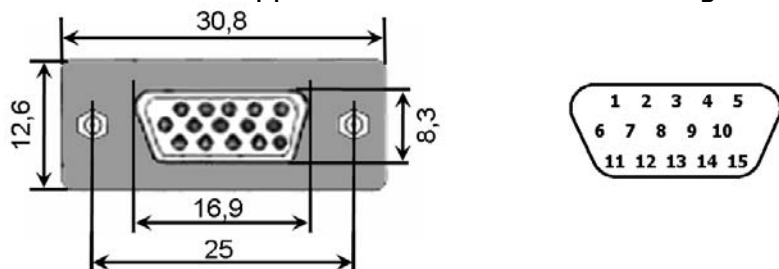

Figure 5. Stepper motor connector: dimensions and pinout
**Stepper motor connector** - This 15 pin D-Sub (male) connector is used for connection of 8SMC1-USBh device to stepper motor. All additional wiring (limit switches, emergency limit switch, revolution sensor and corresponding power supply) is included in this connector too. Dimensions of stepper motor connector see on Figure 5. For more information see 2.2.2.